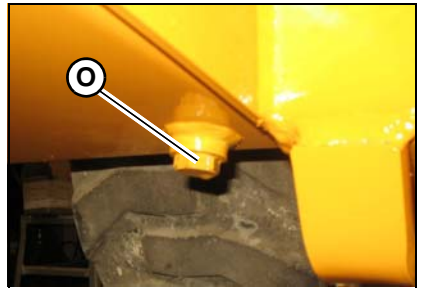

Figure 110 – Hydraulic Oil Drain Plug
6. Remove the hydraulic reservoir drain plug (O, Figure 110) and allow the oil to drain completely.
10. Reinstall and tighten drain plug (O, Figure 110).